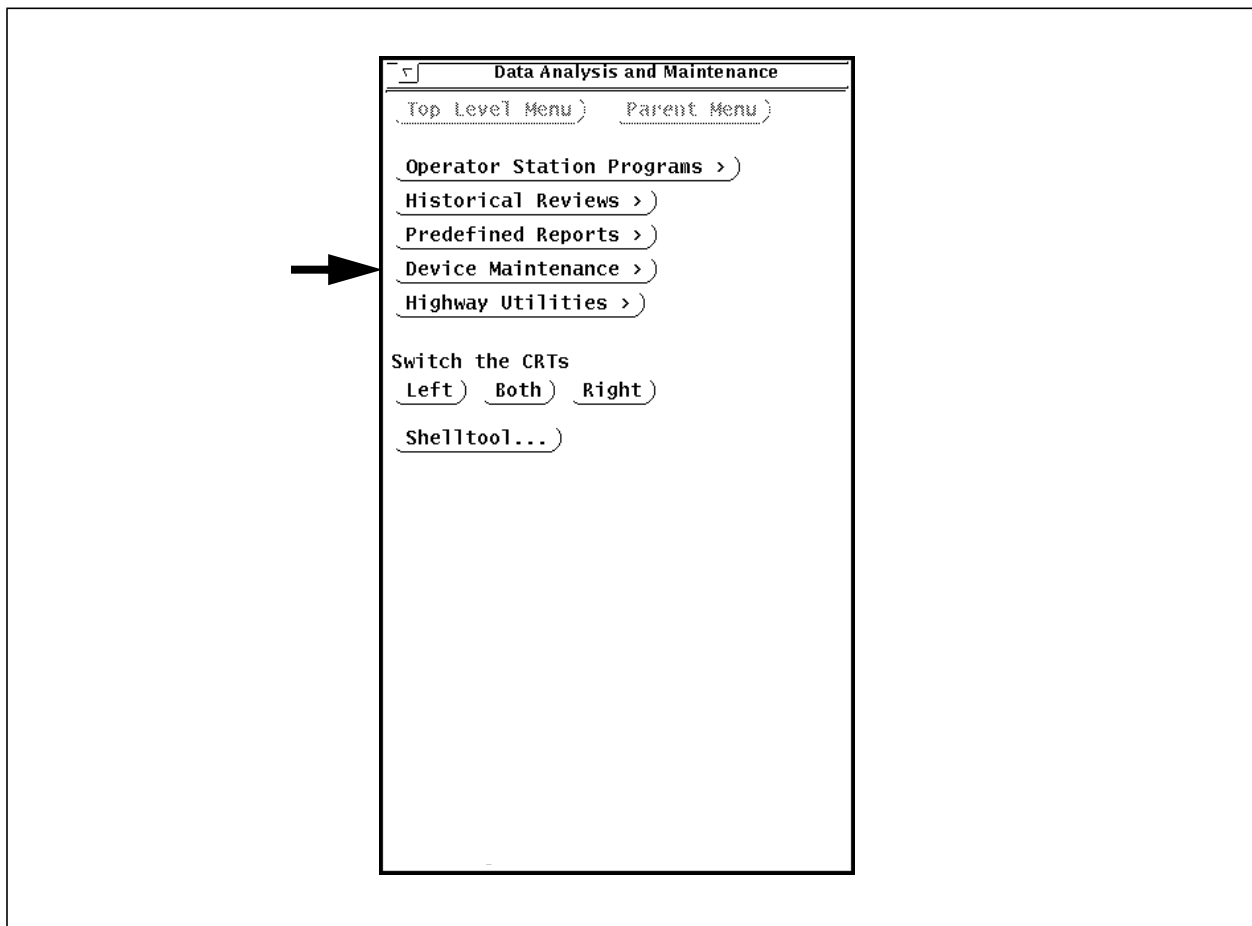

Figure 5-2. Data Analysis and Maintenance Window
1. Open the Data Analysis and Maintenance icon on the Operator WEstation to display the **Data Analysis and Maintenance** menu (see Figure 5-2).
From the **Data Analysis and Maintenance** menu (see Figure 5-2), custom-built menus can be used to dispatch specific Computation Server application programs. Because these menus are custom built on an application-by-application basis, they can be organized according to function. These application-specific menus are built using the standard Menu source language, and reside on both the Operator WEStation and the Engineering WEStation. See “Engineering WEStation User’s Guide” \(U0-8200\) and “Operator WEStation Configuration Manual” \(U0-8110\) for information on building custom menus.